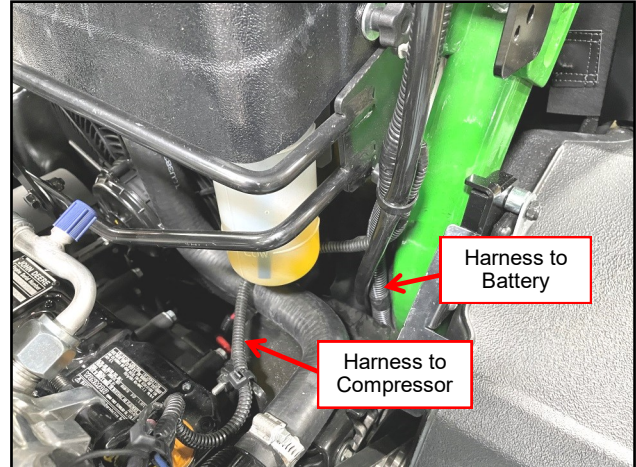
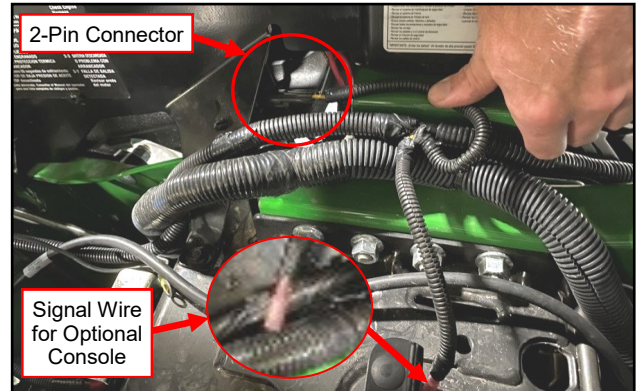

Fig. 2.28a (Routing AC Wire Harness)
Fig. 2.29 (Run Harness on Inside of Right Fender)
**2.28** Per Figures 2.28a and b, run compressor part of the AC wire harness (ring and push-on terminals) to the compressor. Remove 3/8" Lock Nut and install ground ring terminal. Re-install 3/8" Lock Nut and connect the push-on terminal to terminal found on the compressor. Use supplied Wire Ties as need.
**2.29** Pass the AC Wire Harness between the Radiator and right R.O.P.S as shown in Figure 2.28a. Continue to run the harness down the inside of the right fender. Connecting the harness' 2-pin connector to the vehicle harness per Figure 2.29. Use supplied Wire Ties as needed.